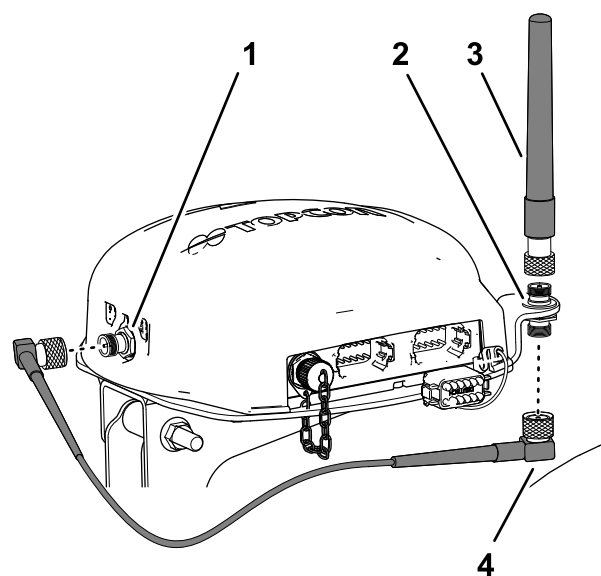

Figure 157
- Assemble the RTK antenna onto the upper fitting of the coaxial coupler, and tighten the knurl nut of the antenna by hand (Figure 157).
- Loosely assemble the antenna cable to the lower fitting of the coaxial coupler (Figure 157).
- Route the cable around the back of the navigation receiver to the coaxial connector of the CDMA or GSM cellular modem (Figure 157).
6. Assemble the antenna cable to coaxial connector of the CDMA or GSM cellular modem (Figure 157).